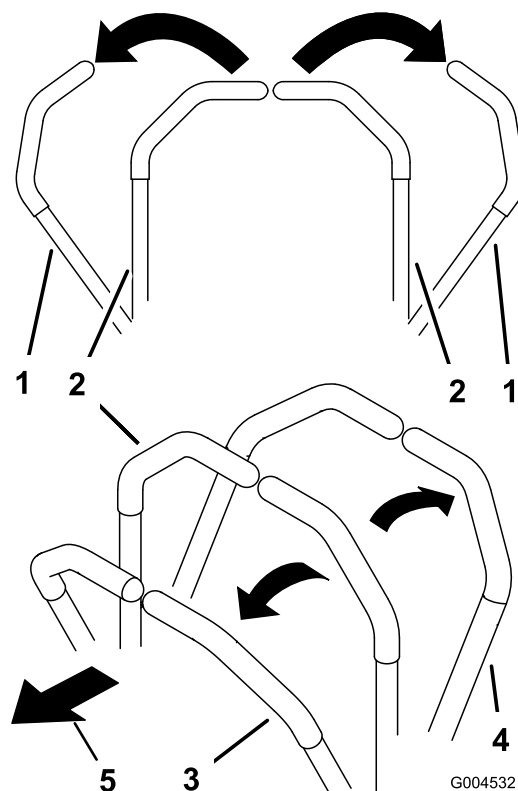

Figure 19
2. To go forward, slowly push the motion control levers forward (Figure 19).
To go straight, apply equal pressure to both motion control levers (Figure 19).
To turn, release pressure on the motion control lever toward the direction you want to turn (Figure 19).